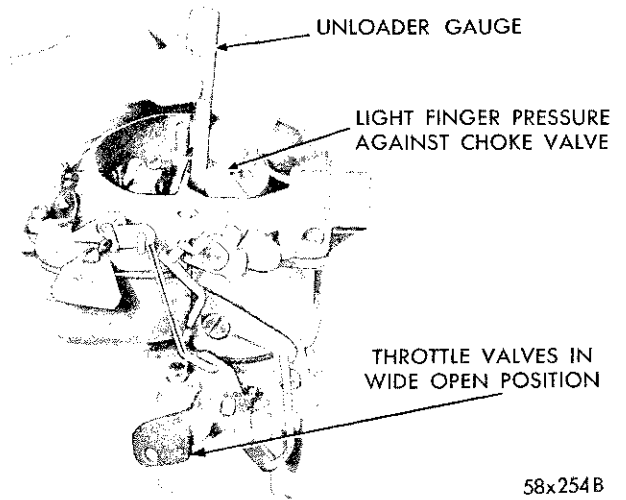

Fig. 18—Checking Choke Unloader Setting
(1) Hold the throttle valves in the wide open position. Insert Tool T109-31 (or a 1/4" drill shank) between the upper edge of the choke valve and the inner wall of the air horn, as shown in Figure 18.